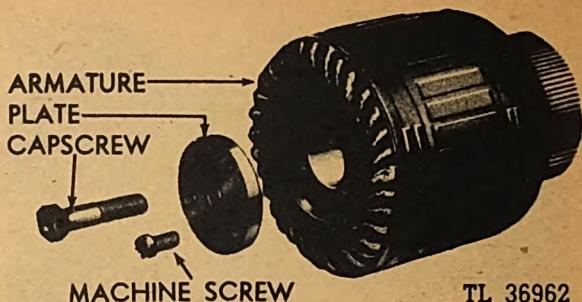
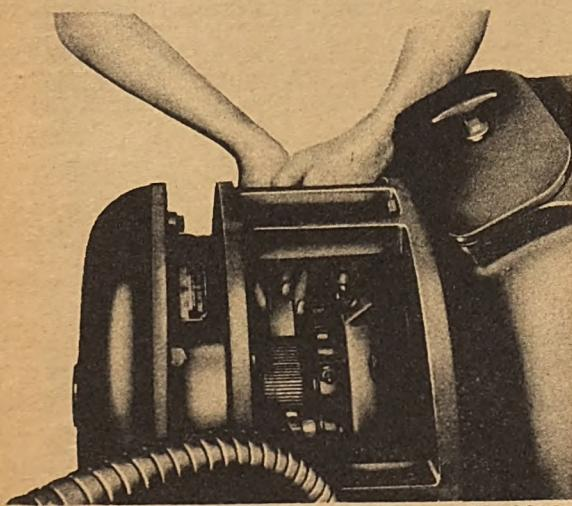

Fig. 310. Exciter Armature and Commutator
Fig. 309. Commutator Being Stoned
**99. Commutator.** If the commutator is too rough or eccentric to be stoned down successfully by hand (See Figure 309), disassemble the alternator and exciter. The whole rotor assembly should be placed in a lathe and the commutator turned down to restore a smooth and true surface. (See Figure 310.) (The exciter should be installed on its own portion of